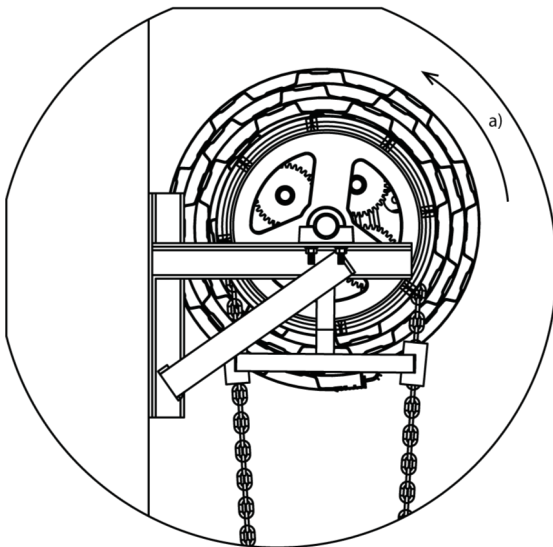

Figure 5.1
- With the door in the 6 o'clock position, rotate the door 2 turns upward (counter clockwise) to apply tension (Figure 5.1 (a)). **DO NOT** let go of the door.